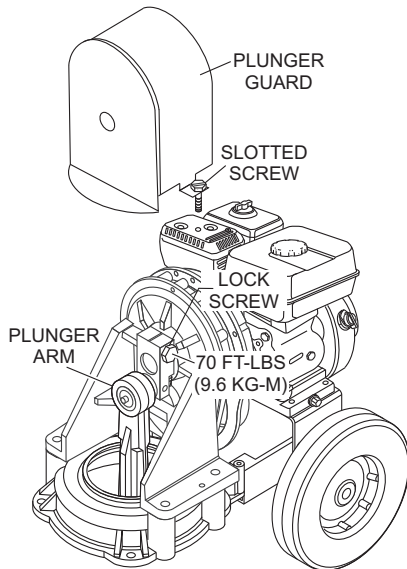

Figure 24. Lock Screw Torqueing
1. Remove plunger guard (Figure 24) by removing slotted screw (2).
3. Using a torque wrench, torque lock screw (Figure 24) to 70 ft.-lbs. (9.6 kg-m).